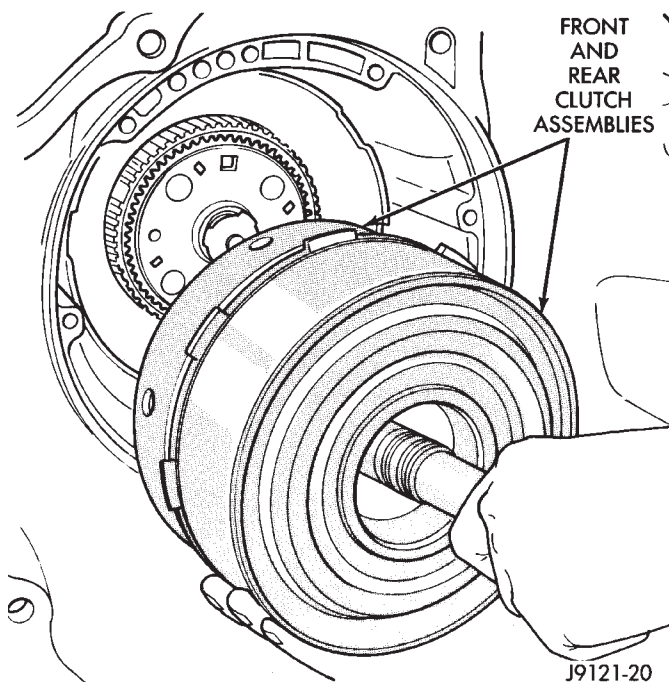

Fig. 108 Removing Front/Rear Clutch Assemblies
(19) Remove front and rear clutch assemblies as a unit (Fig. 108).